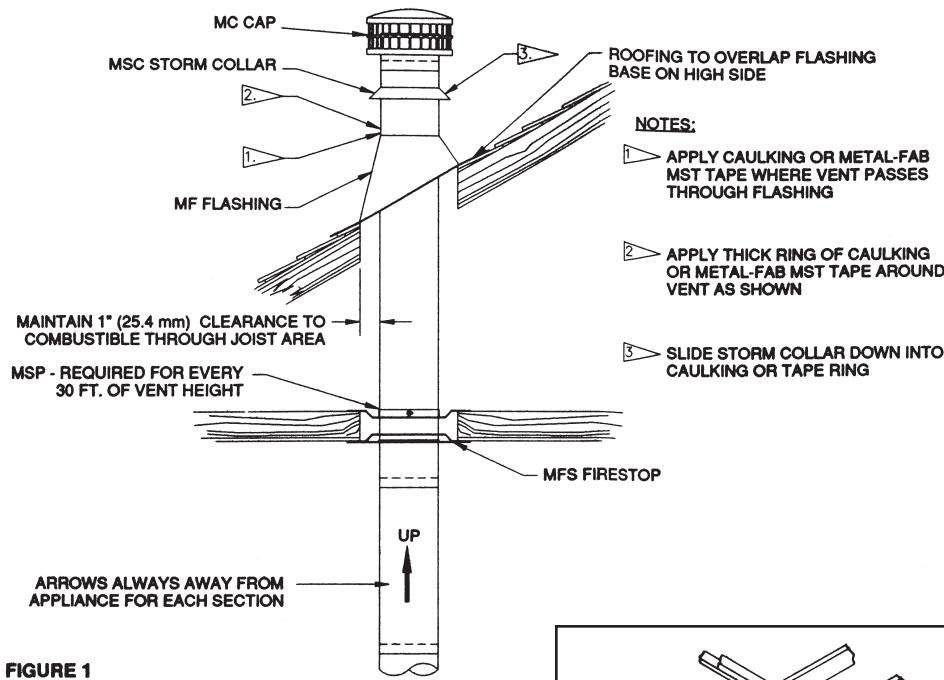

FIGURE 1
- If this is a single, straight up installation, and the B-Vent must penetrate the ceiling, cut a hole in the ceiling 2 inches (51 mm) larger than the outside diameter (OD) of the outer casing. The B-Vent is to be centered in this opening. When installed, check to make sure the one inch (25.4 mm) clearance to combustible has been maintained. (See Figure 1).
- Continue with B-Vent penetrating the roof. NOTE: For Canadian installations, use labeled ULC section, designated with Suffix G, on vent sections exposed to atmosphere. At the roof, the opening should be 2 inches (51 mm) greater than the B-Vent OD. Above the roof, a flashing is required to maintain the one inch (25.4 mm) clearance to the combustibles of the roof. Installation of a storm collar allows water to drain over the flashing. Caulk as shown in Figure 1.
- Install the B-Vent cap (MC) onto the B-Vent. NOTE: See height of vents under "SAFETY".